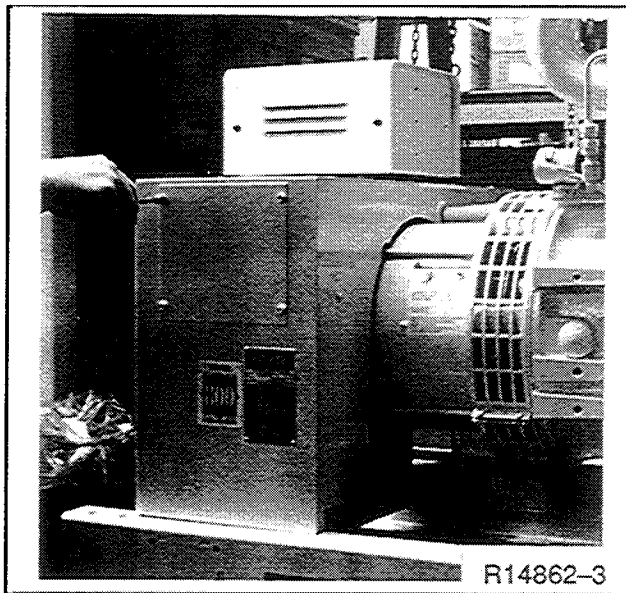
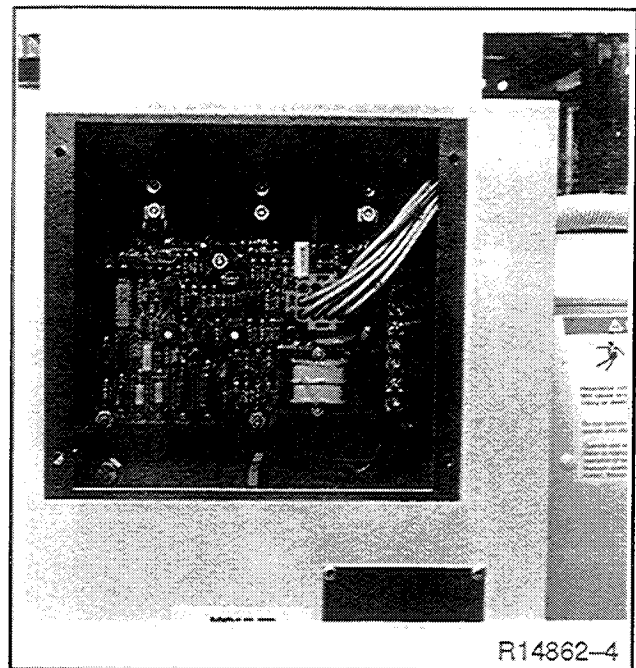

Figure 9-2. Removing Junction Box Side Panel
Figure 9-3. Voltage Regulator
3. Remove four screws on junction box and remove side panel, see Figure 9-2. This side panel allows access to the voltage regulator, see Figure 9-3.